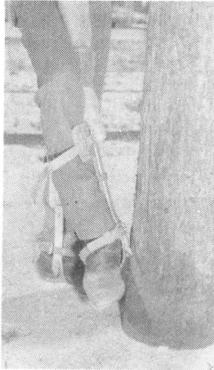

FIGURE 13. Jabbing Gaff in Pole
- (1) Place the climber on the leg and fasten the foot strap in the usual manner. Do not fasten the leg strap.
- (2) Remove the gaff guard and put on gloves. Place the hand between the leg and the climber pad, palm facing the pole. Place the other hand around the pole for balance. With the leg at about a 30° angle (the normal climbing angle), aim the gaff toward the center of the pole about one foot above the ground line. Lightly jab the gaff in the pole so that it penetrates the wood about 1/4 inch. See Figure 13. Do this at a location where the pole surface is free of cuts.